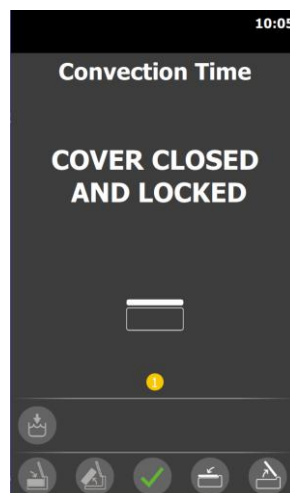

Figure 32
- Upon the IO board via modBus reporting the Lid is Closed, the UI shall display a pop-up screen with the message “COVER CLOSED AND LOCKED” along with an image of a closed LID over Pan. (see **Figures 32 – 33**)